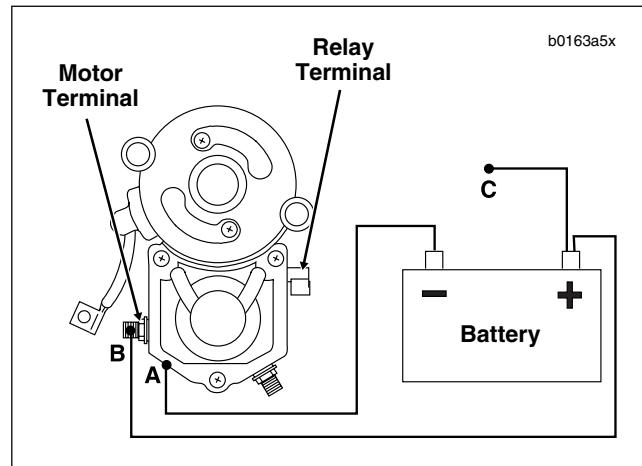

Figure 1-7. Test 3: Return Test
1. See Figure 1-7. With test leads still connected in the manner specified at the end of the previous SOLENOID HOLD-IN TEST, disconnect solenoid relay terminal/positive battery post test lead (C) at either end.